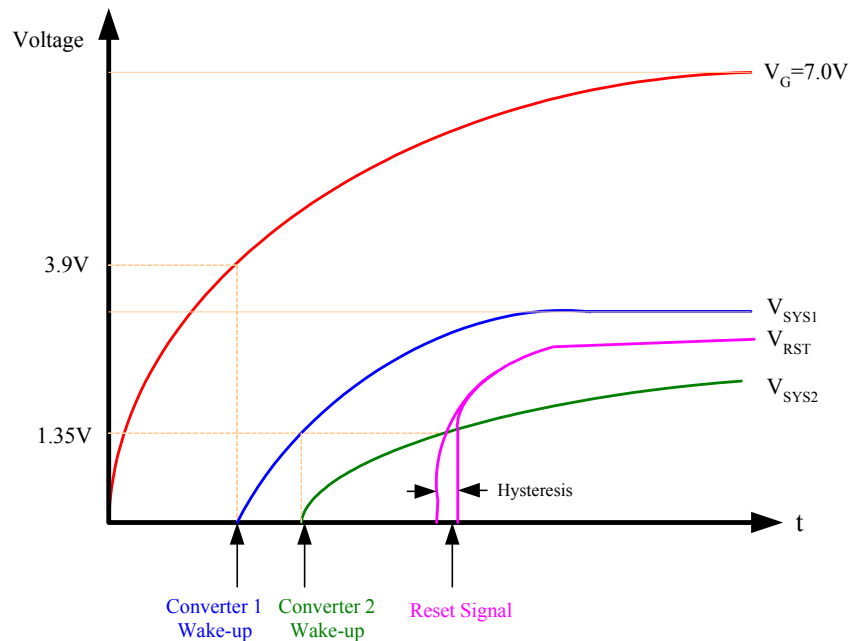
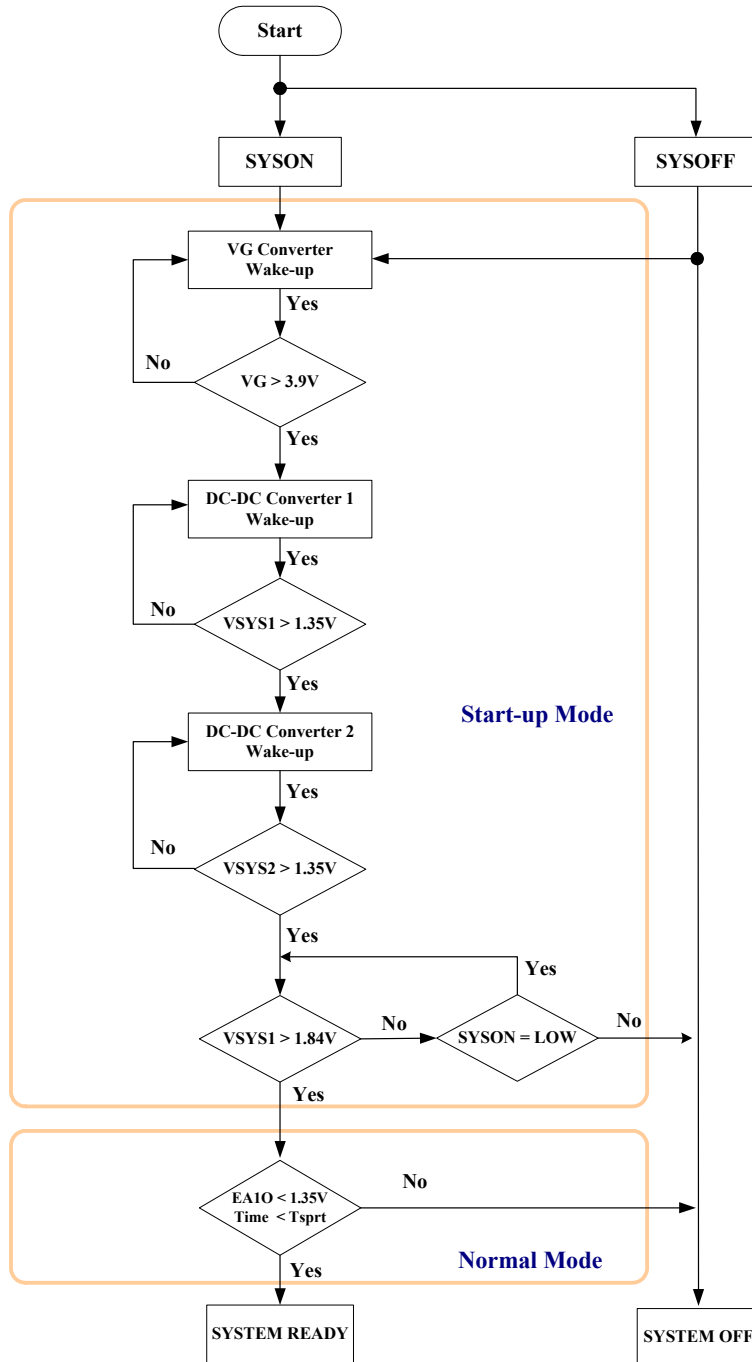

Figure 3. Plot of Power Sequence
Figure 4. Flow Chart of Power Sequence
When the circuit is enabled, to obtain the necessary power (VG) to operate the internal circuits and upper side output power switches of the 4 channels H-bridge driver, the VG converter circuit is activated. Also, to stably operate all circuits, the VG converter keeps other circuits from activating until the output voltage of the VG converter reaches the specific voltage (3.9V). When the output voltage of the VG converter reaches 3.9V, the first DC-DC converter (DC-DC Converter1) activate. And when output voltage of DC-DC converter1(V_{SYS1}) reaches 1.35V, the second converter (DC-DC Converter2) activates in sequence. The circuit activation sequence as stated above and a flow chart are shown in Figure 3 and Figure 4.
The following graph and flowchart of Figure 3 and Figure 4 show the power sequence of the VG converter and two DC-DC converters (DC-DC converter1 and DC-DC Converter2); herein, VG converter generates power for internal circuits and upper side output power switches of the 4 channels H-bridge driver, and the DC-DC converters supply the external circuits and components.